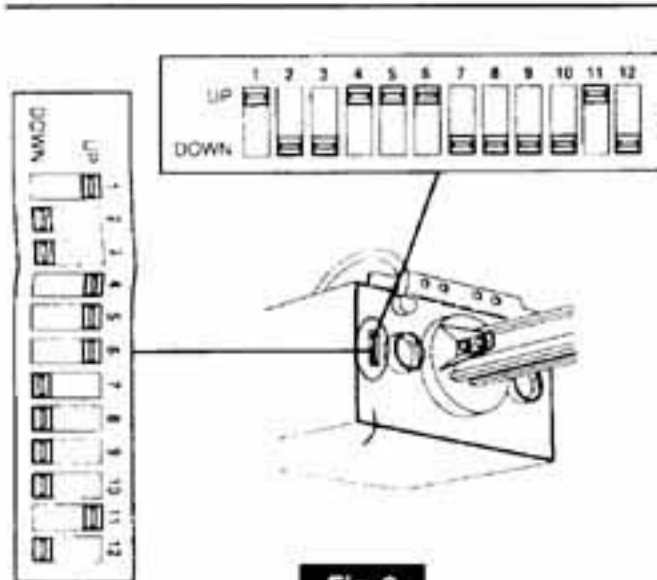

Fig. 3
- Step 2-1** Locate Operator Code Switches on Door Operator **Fig. 3** .